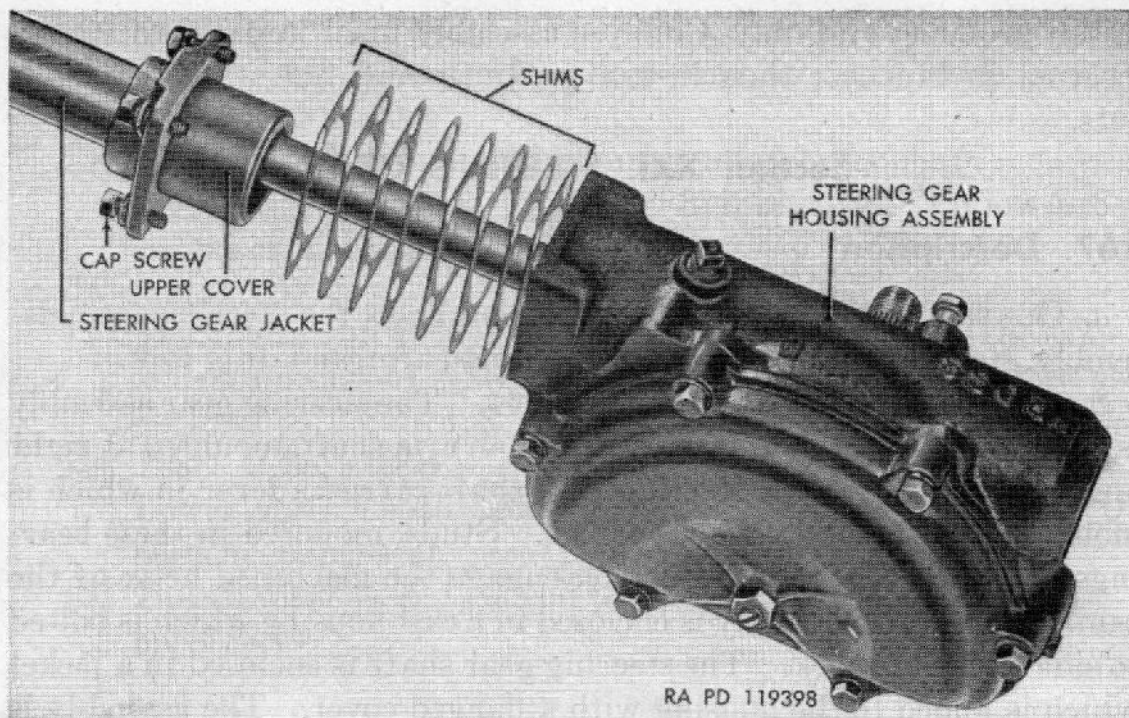

Figure 116. Steering gear end-play adjustment.
b. STEERING GEAR ASSEMBLY (fig. 116). The steering gear assembly is a helical cam and lever type. A pitman arm shaft, mounted at right angles to axis of cam on steering gear shaft carries a lever in which is mounted two tapered roller bearings. Studs, mounted in these bearings, have cone-shaped ends which engage the machined helix of the cam. The above assembly is enclosed in a cast housing which is bolted to side frame of truck. The steering gear shaft is enclosed in a jacket which is joined to the housing with a flanged cover. The assembly is watertight.
a. END PLAY ADJUSTMENT (fig. 116).